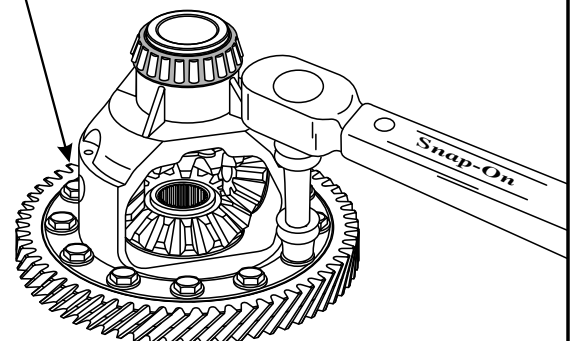

Figure 148
3. If it was necessary to replace the ring gear, install it on the carrier and torque all ring gear bolts to 70 ft.lbs. as shown in Figure 148.